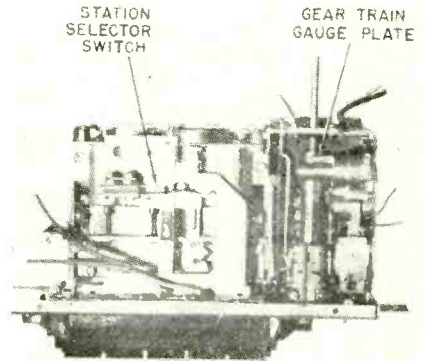

Fig. 6—View of receiver showing gear train gauge plate.
2. Improper gear train adjustment. To adjust, loosen the gear train mounting screws (see Fig. 6) and adjust for a clearance of .0006 to .0068 inches between gear train housing and rack.